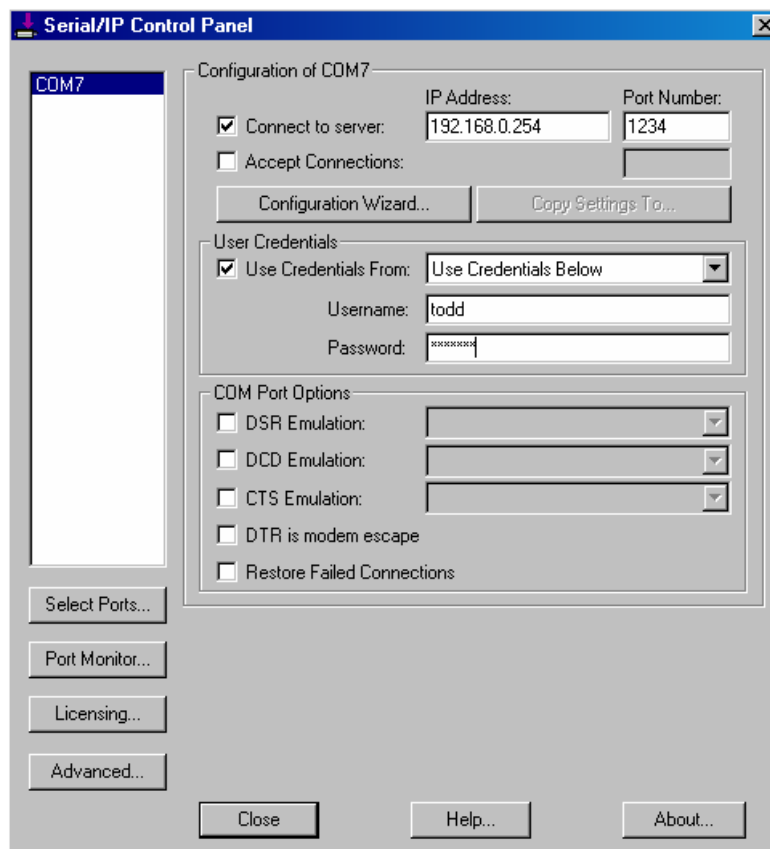

Figure 55: Virtual Port Configuration
4.	On the Serial IP Control Panel, enter the IP address and port number of the Device Server. See Figure 55.
5.	Check “user credentials” and select “use credentials below” from the pulldown menu. See Figure 55.
6.	Enter a “user name” and “password” if previously set. See Figure 55.